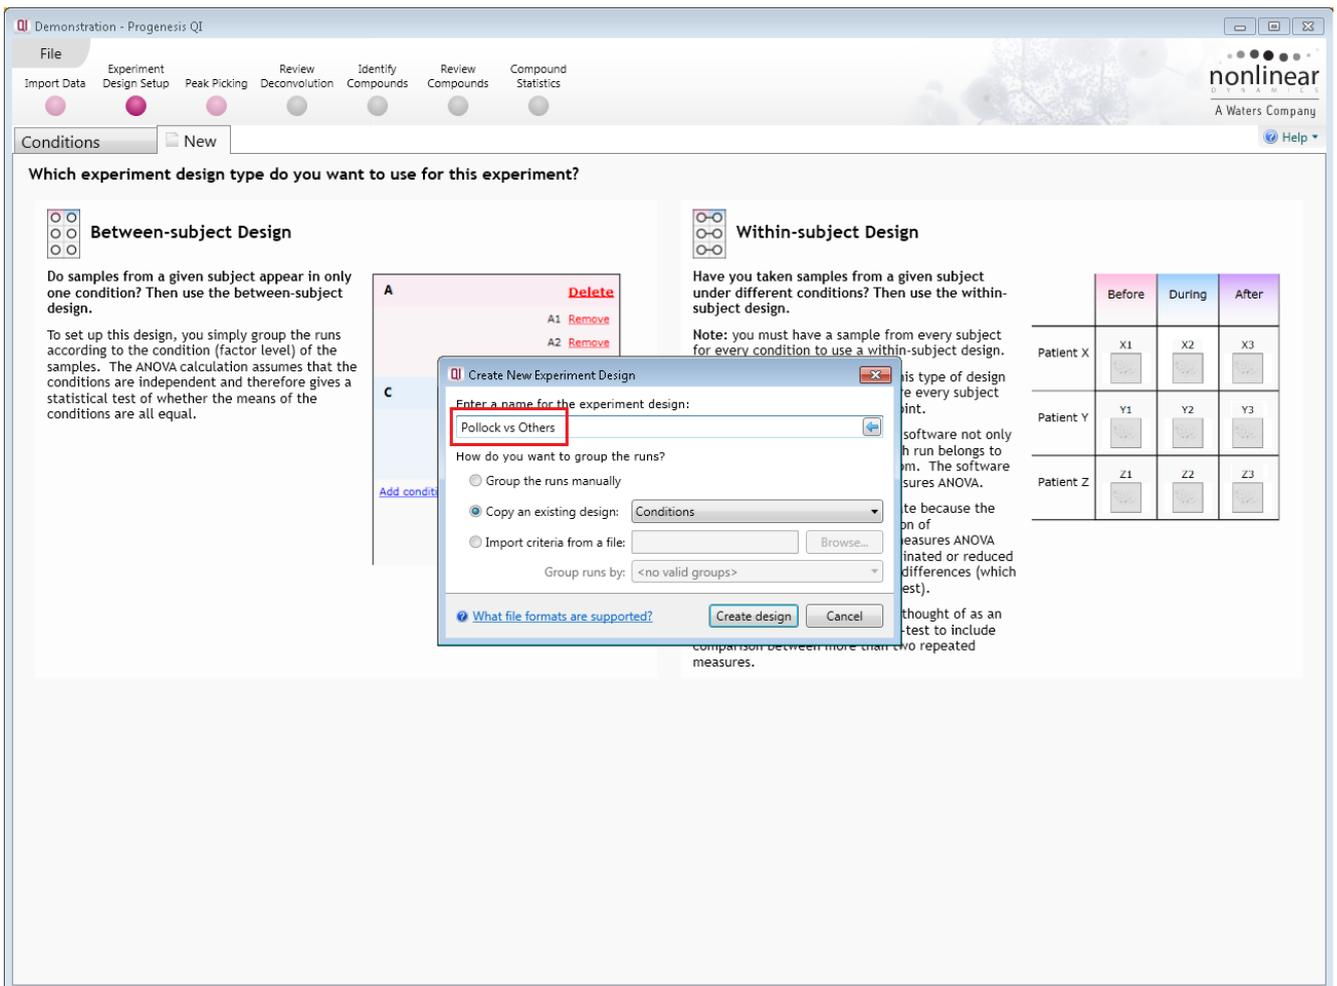

Figure 19: Create a new experiment design, copying the existing one that was generated by the template file for convenience.
2. Create a new **Between-subject Design** using the **New** tab. Select **Copy an existing design** (Figure 19) to create a copy of the existing fish groups.